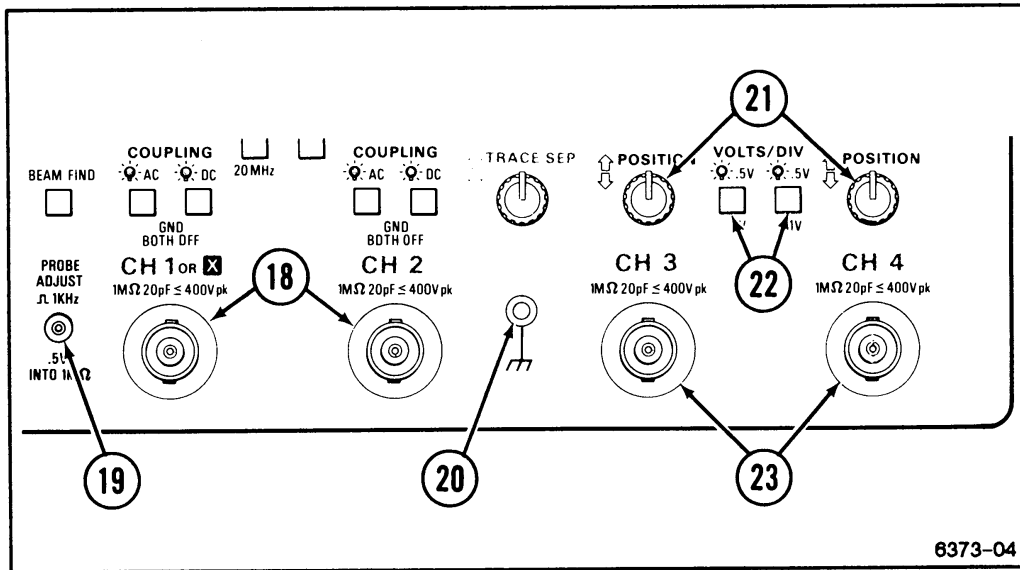

Figure 2-3. Vertical connectors and CH 3 and CH 4 controls.
Refer to Figure 2-3 for location of items 18 through 23
- ①8 **CH 1 OR X and CH 2 Input Connectors**—Connect signals to the inputs of Channel 1 and Channel 2 vertical attenuators.